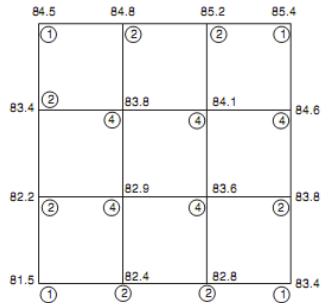

Fig. 18.14
■ **Example 18.8:** A $60\text{ m} \times 60\text{ m}$ plot is to be excavated to a formation level of 80.0 m . The present levels at $20\text{ m} \times 20\text{ m}$ grid are as shown in Fig. 18.14. Calculate the volume of earth work.